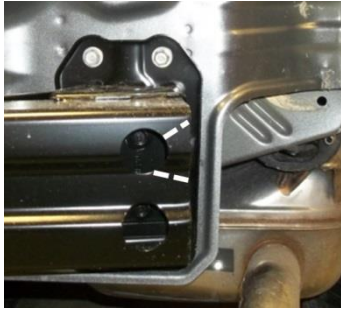

Figure 2
5. **Bumper removal:** Remove the (8) bolts holding the bumper in place and return the fasteners to the owner.
6. **Bumper trimming:** using a die grinder remove the material shown in Figure 2. Both sides as needed.
5. Bumper removal: Remove the (8) bolts holding the bumper in place and return the fasteners to the owner.
6. Bumper trimming: using a die grinder remove the material shown in Figure 2. Both sides